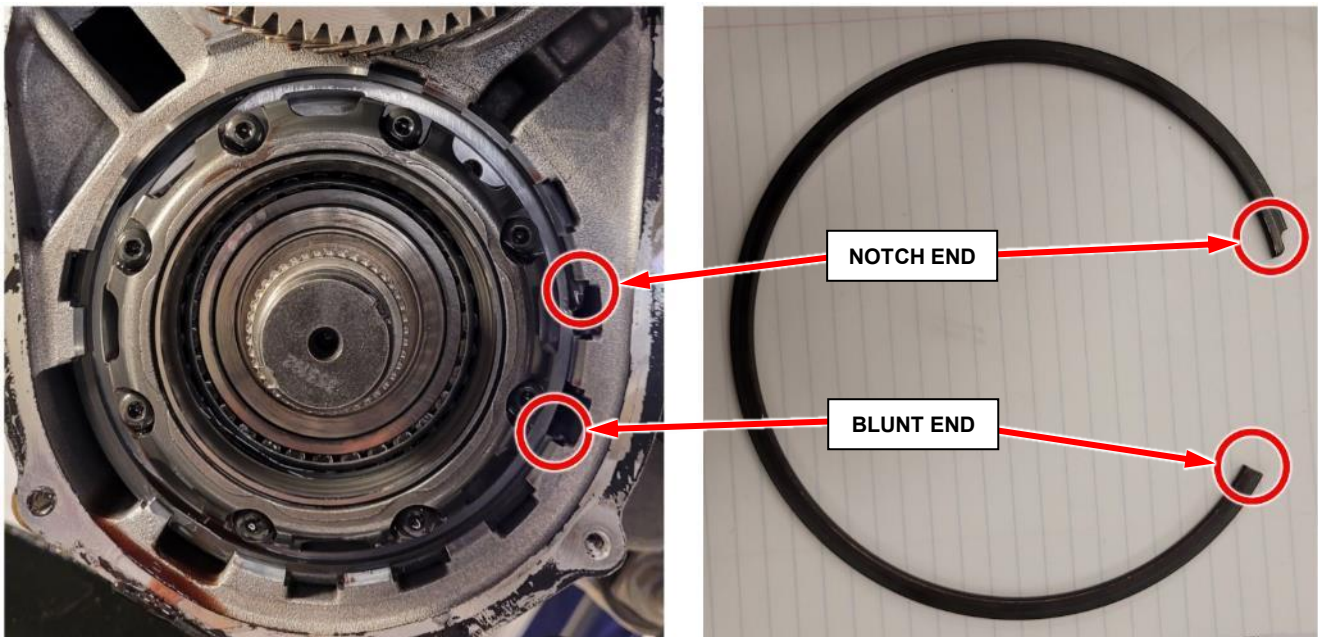

**Figure 42 – Snap Ring Installation Orientation**
**CAUTION: Snap ring is bevelled and MUST be installed in the proper orientation. When looking directly at the snap ring, the notch end and blunt ends must be oriented as shown regardless of clock position of snap ring when installed in the transmission. The snap ring ends should be oriented so that the ends are in an open space rather than in the snap ring groove (Figure 42).**
73. Obtain a **NEW** snap ring, then install that **NEW** snap ring to retain the underdrive compounder assembly. Ensure the snap ring is fully seated in the snap ring groove (Figure 42).